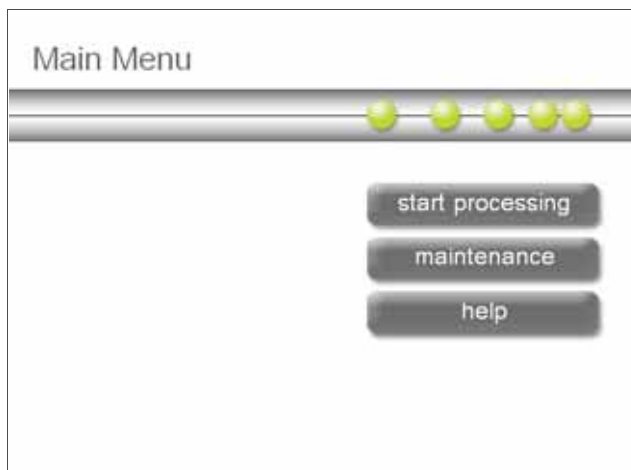

Figure 2.3 Main Menu touchscreen
1. To set up a new run select **start processing** from the Main Menu (Figure 2.3).